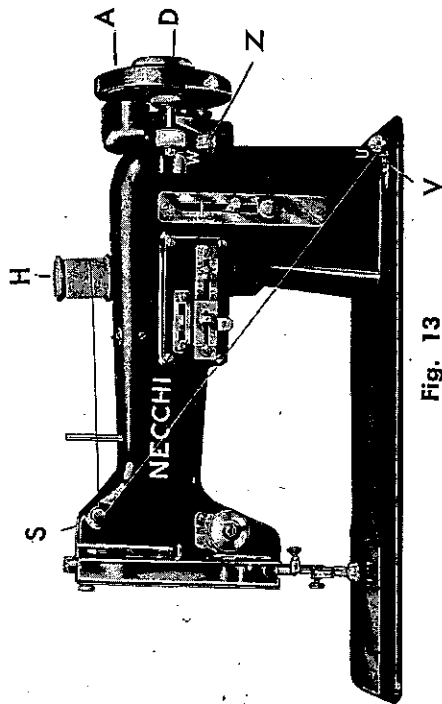

Fig. 13
- Disconnect balance wheel "A" (Fig. 13) from sewing mechanism by holding wheel with left hand and turning stop motion knob "D" toward you with right hand, until knob feels loose.